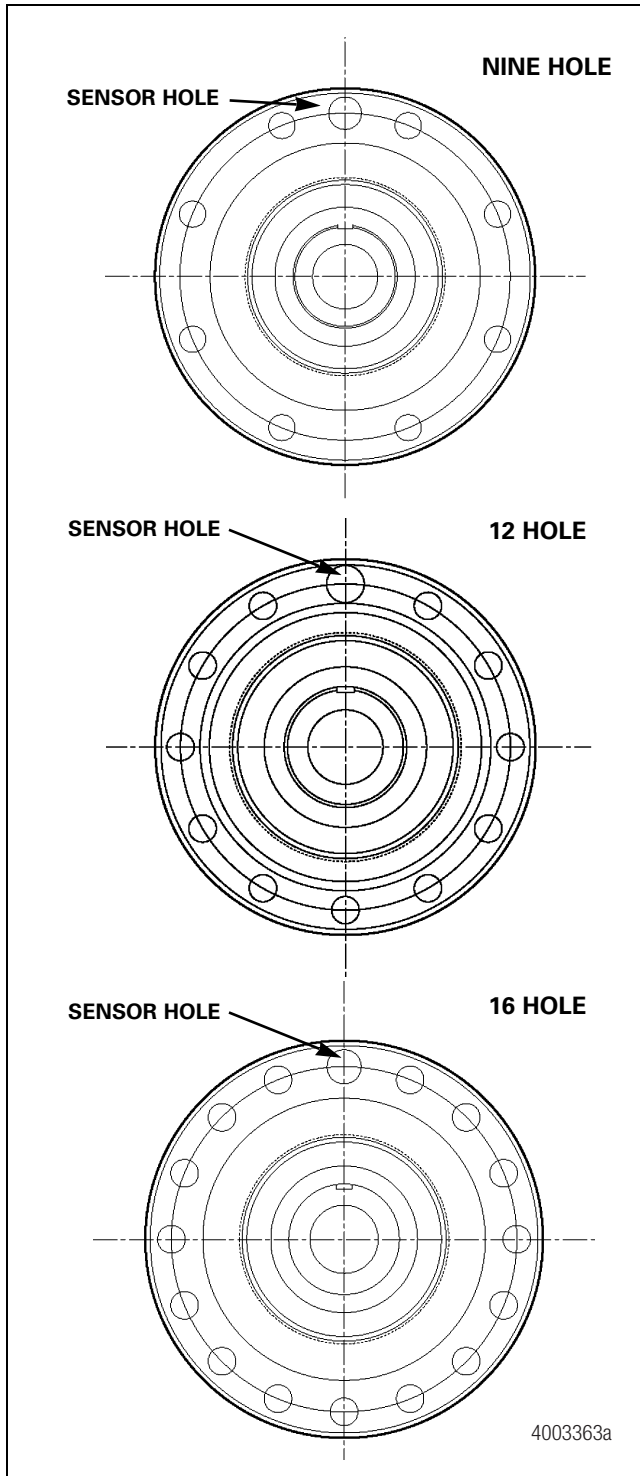

Figure 13.18
8. Currently brake flanges are available with nine, 12 and 16 hole patterns. For all three designs, the ABS wire should pass through the 0.8125-inch diameter hole and the remaining holes should be used for fastening the brake spider as detailed in Section 6. Figure 13.18.